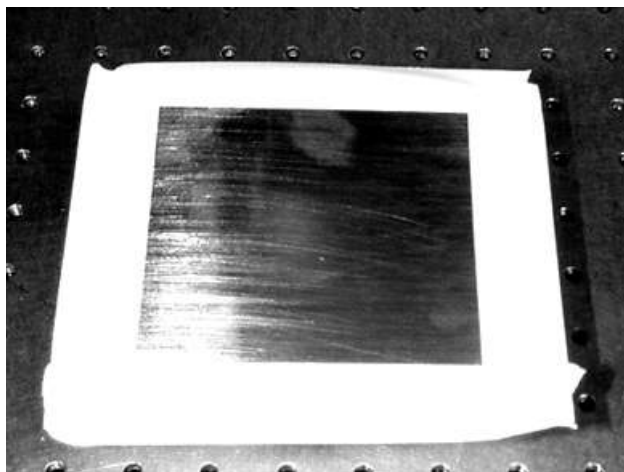

Figure 5.1-5. Preparation of the Replacement FAP-I Assembly
2. The new FAP-I should come with a precut plastic mask for applying thermal compound. If this mask is not included, place masking tape over the edges of the FAP-I baseplate as illustrated in Figure 5.1-5.